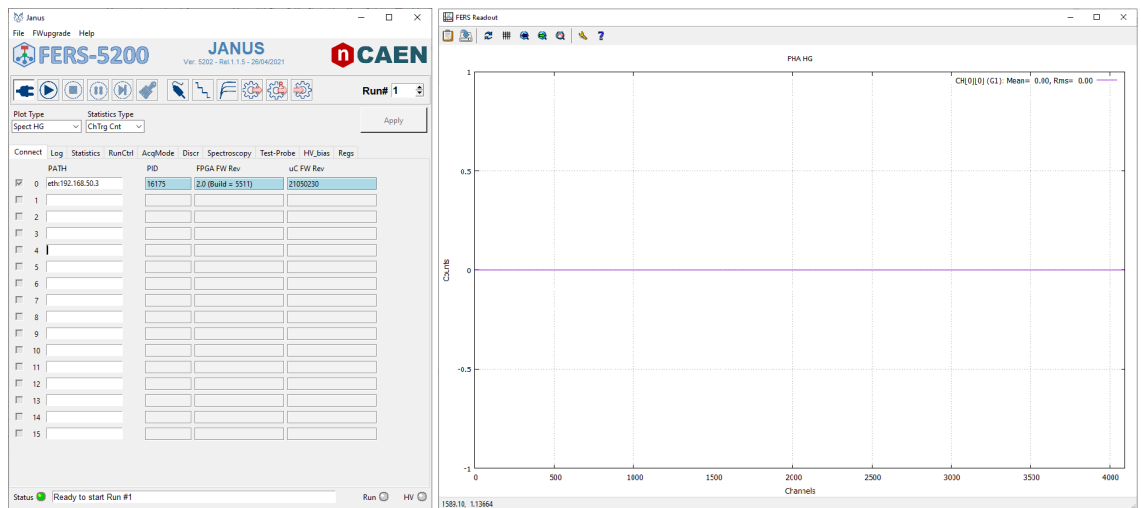

Fig. 10.16: Janus GUI starting interface when the connection is correctly established.
- Click on the Connect button on the top left part of the Janus window . The connection between the software and the board is established and the *gnuplot* graphic interface is opened as in Fig. 10.16.